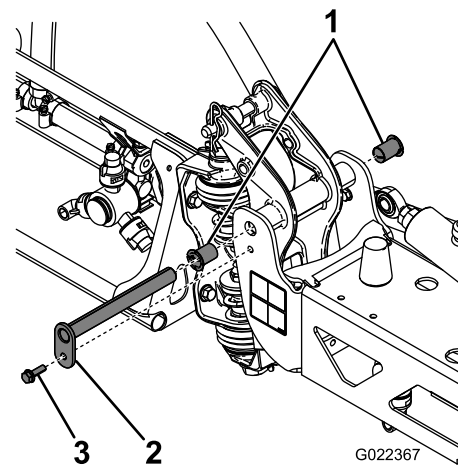

Figure 46
3. With the weight of the boom supported, remove the bolt and nut securing the pivot pin to the boom assembly (Figure 46).
6. Remove and inspect the nylon bushings from the front and back sides of the pivot bracket (Figure 46).
8. Install the boom and pivot bracket assembly into the center frame, aligning the openings (Figure 46).